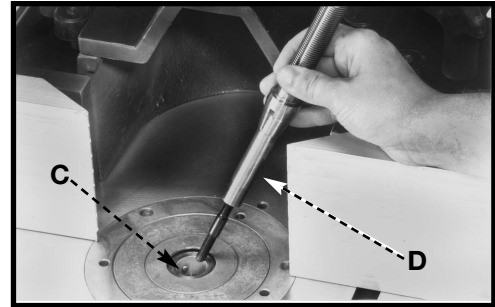

Fig. 9
2. Insert the tie rod and spindle into the spindle cartridge. Line up the pin (C) Fig. 9 with the notch (D) in the spindle.